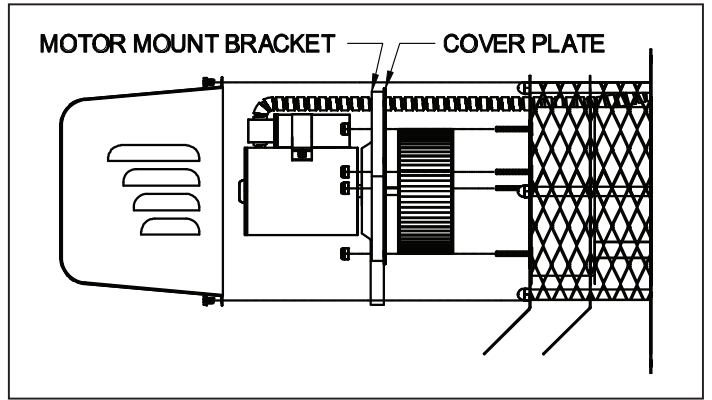

Figure 14
3. Remove the four nuts securing the motor assembly, and pull the motor assembly straight off of the unit. (See Figure 14)
1. Align the holes in the circular cover plate with the holes in the motor mount bracket on the motor assembly. (See Figure 14)
2. Slide the motor assembly onto the protruding threaded studs on the power venter body with the exhaust chute pointing downward, and replace the four nuts securely to the threaded studs. (See Figure 14)